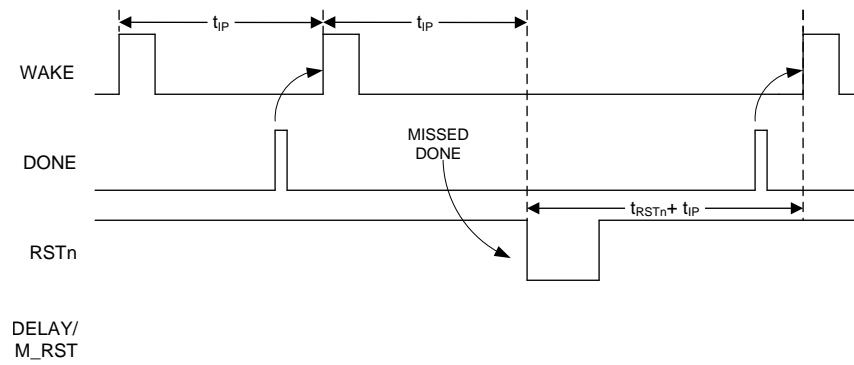
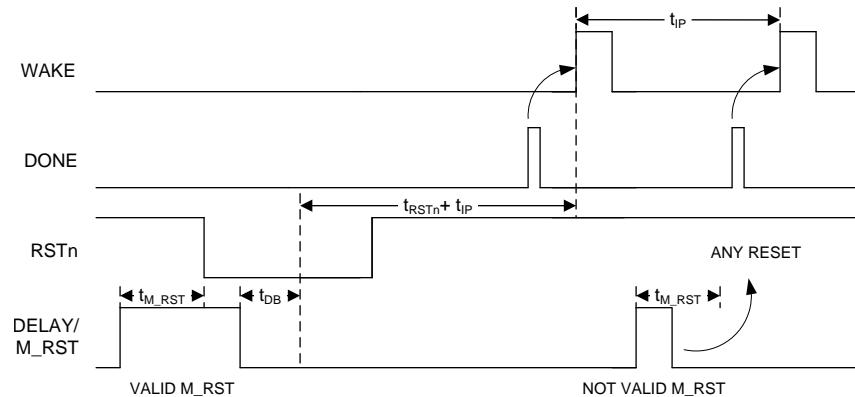

Figure 8. Watchdog
Figure 10. Manual Reset
- 2. At the beginning of a new time interval if DONE is not received at least 20 ms before the next WAKE rising edge (see Figure 8).
During normal operating mode, the TPL5010-Q1 asserts periodic WAKE pulses in response to valid DONE pulses from the μ C. If either a manual reset is applied (logic HIGH on DELAY/M_RST pin) or the μ C does not issue a DONE pulse within the required time, the TPL5010-Q1 asserts the RSTn signal to the μ C and restarts its internal counters. See Figure 8 and Figure 10.